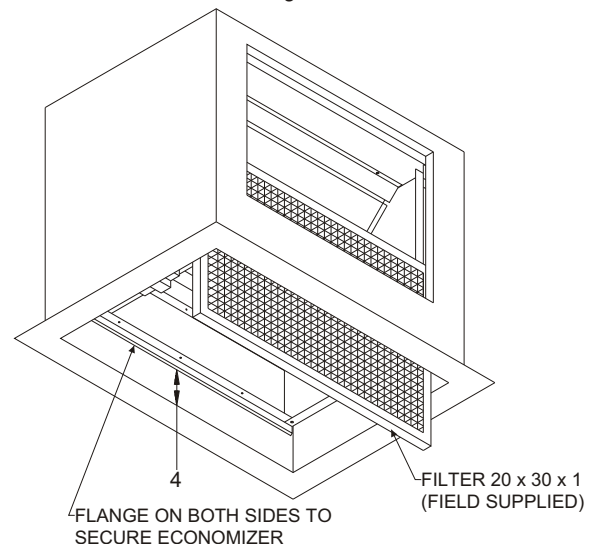

Figure 9
Step 6- Raise the economizer up into the plenum, be sure to pull excess wire through the bushing as the economizer is raised. Once the economizer has been raised up into position. Economizer is in position when it measures 4" from face of plenum collar. Secure economizer in place with ten #10 - $16 \times \frac{1}{2}$ " self tapping screws provided with the unit. See Figure 9.